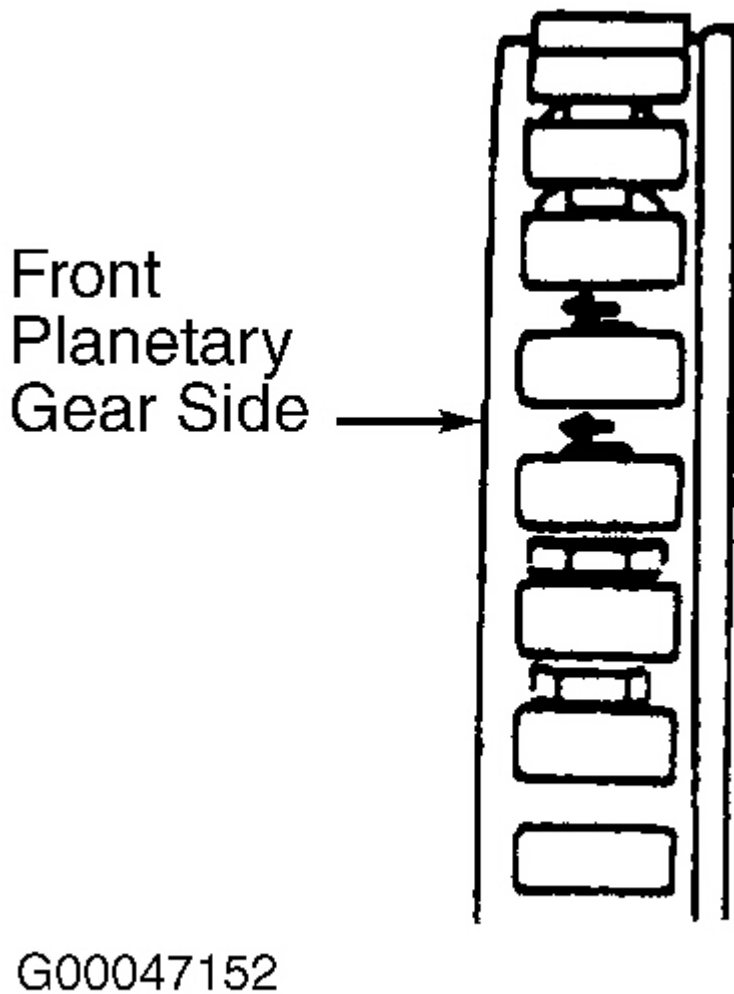
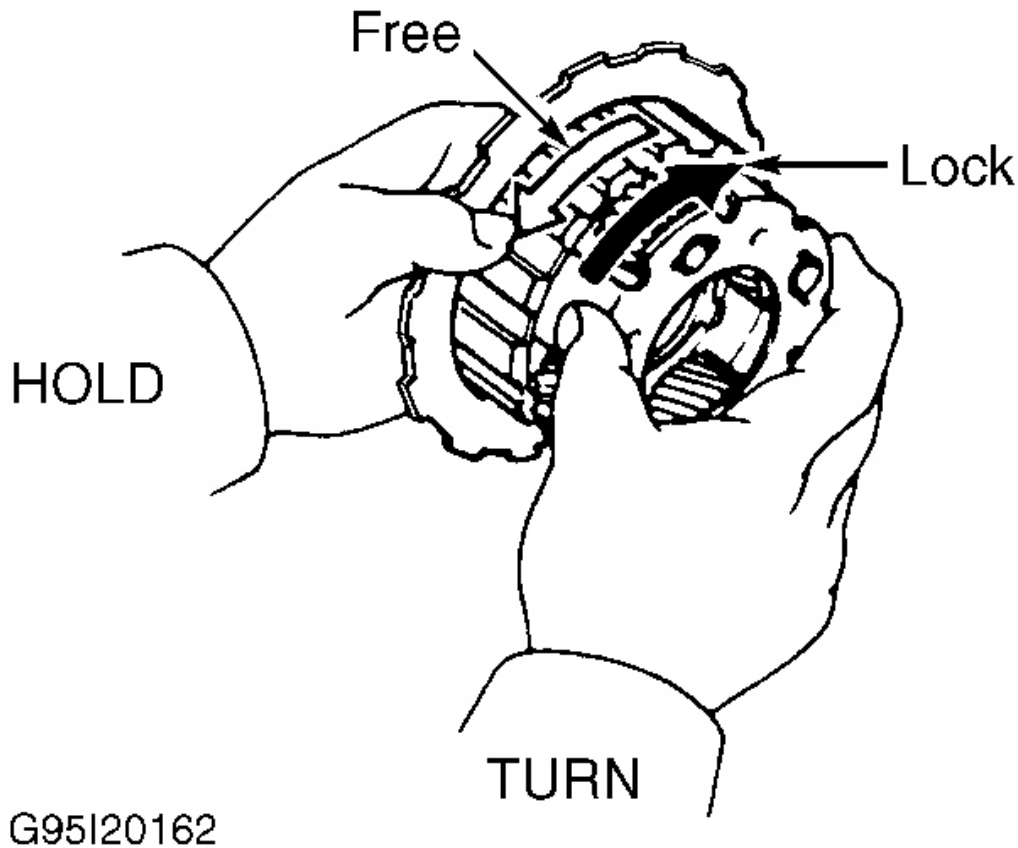

Fig. 40: Installing No. 2 One-Way Clutch
Fig. 41: Checking No. 2 One-Way Clutch Operation
3. Install one-way clutch and snap ring into front planetary gear. See **Fig. 40** . Install reverse brake reaction plate. Check operation of No. 2 one-way clutch. See **Fig. 41** .